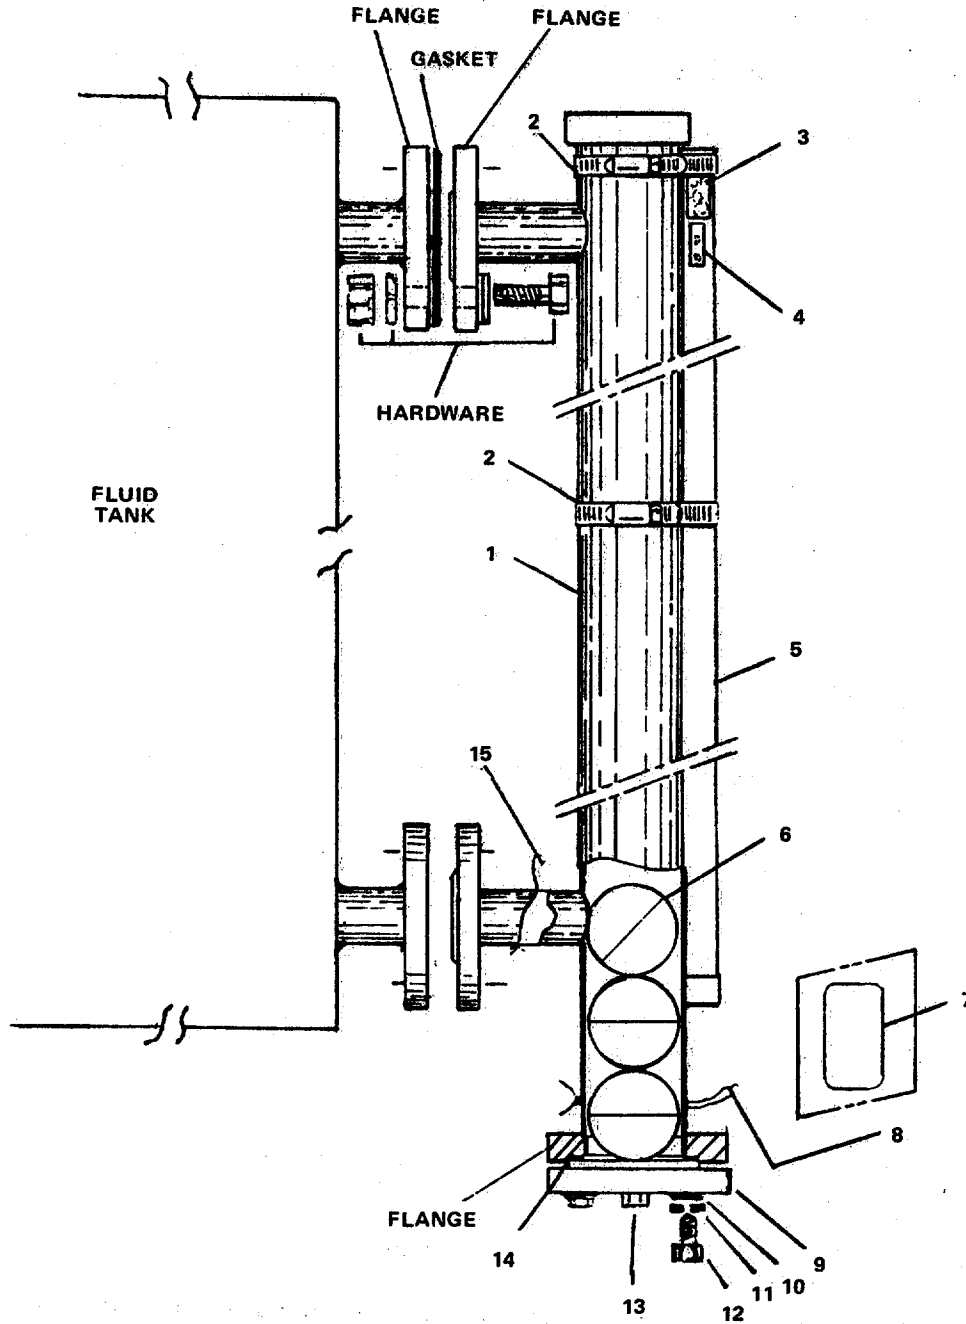

FIGURE 3-38. Level Sight Indicator. VLI-86501-7. -20. -44.
- q. Install cable clamp (37), plain hexagon nut (36), lockwasher (35) and self-locking screw (34).
- r. Install hand ringing generator (32).
- s. Install manual control handle (5).
- t. Install incandescent lamp (3) and lens (2).
- u. Install pilot light assembly (1).
- v. Install push switch (4).
- w. Install telephone selector switch (7). Remove tags and connect electrical leads.
- x. Install telephone cover (6).
**3-41. Replace/Repair Level Sight Indicators. (Figure 3-38)**